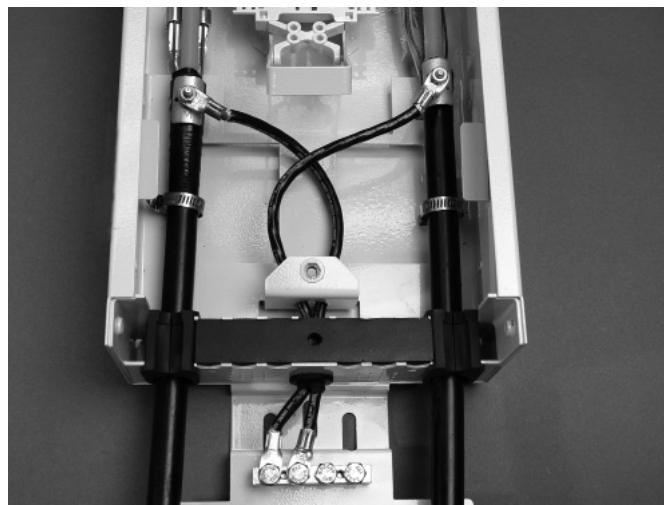

Figure 12
6. **For common grounding,** use a locally approved solid ground wire (cut to 10" length) or RUS approved ground wire. For isolated grounding, the ground wire will have to be insulated. Insert the ground wire through the round grommet in the bottom of the box. Attach it to the ground bar. (Fig. 12)